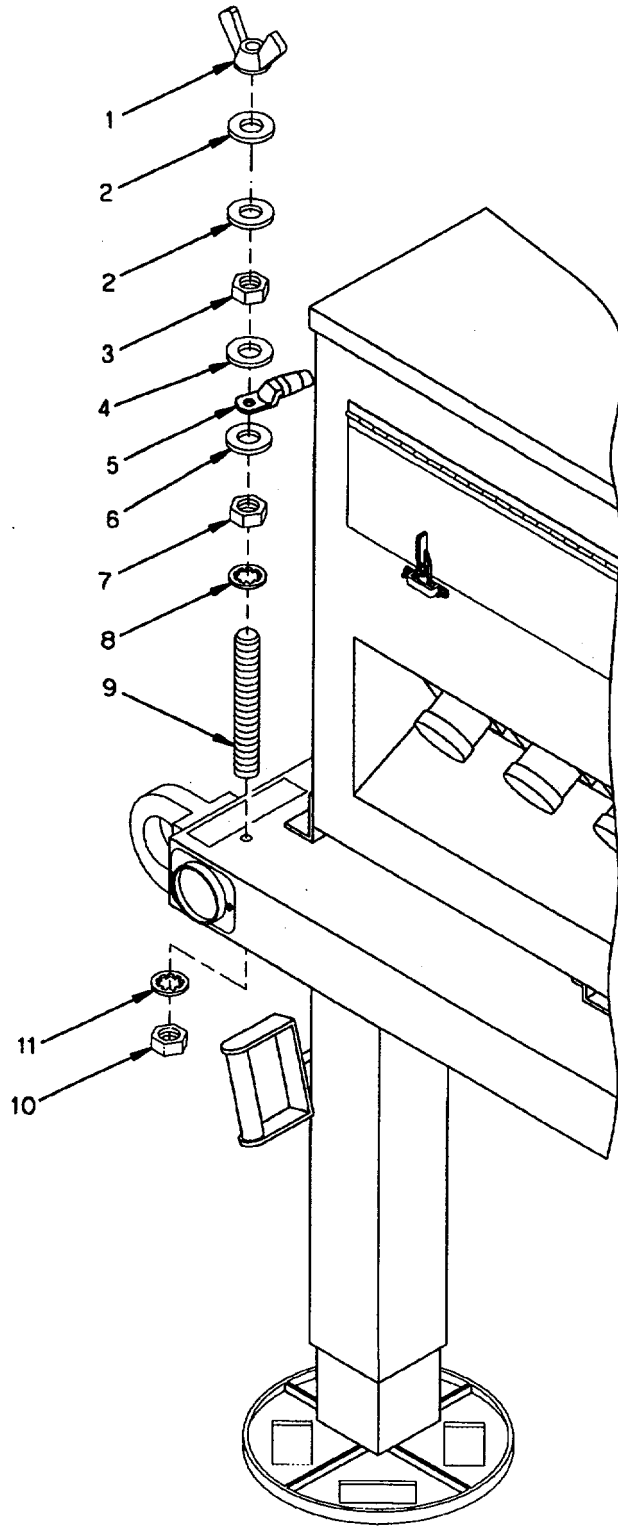
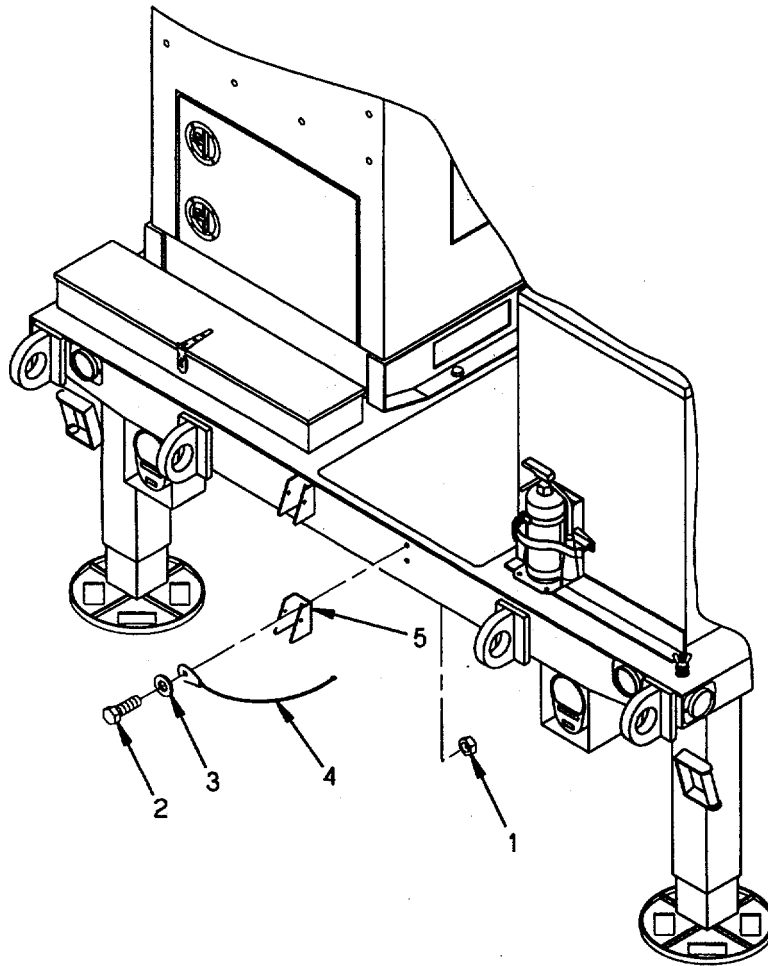

Figure 5-7. Ground Stud Replacement.
Figure 5-8. Ladder Bracket Replacement.
- a. Remove wing nut (1, figure 5-7), two flat washers (2), nut (3), flat washer (4), ground cable (5) and flat washer (6).
- b. Remove nut (7), internal tooth washer (8), nut (10), internal tooth washer (1 1), and remove ground stud.
- a. Remove nut (1, figure 5-8), screw (2), flat washer (3), wire rope assembly (4), and remove ladder mounting bracket (5).